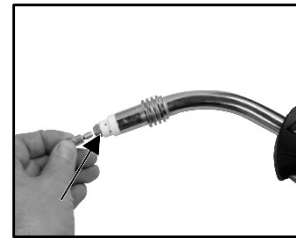

Fig. 16
9. Remove the gas nozzle and contact tip from the torch neck (Fig. 16)